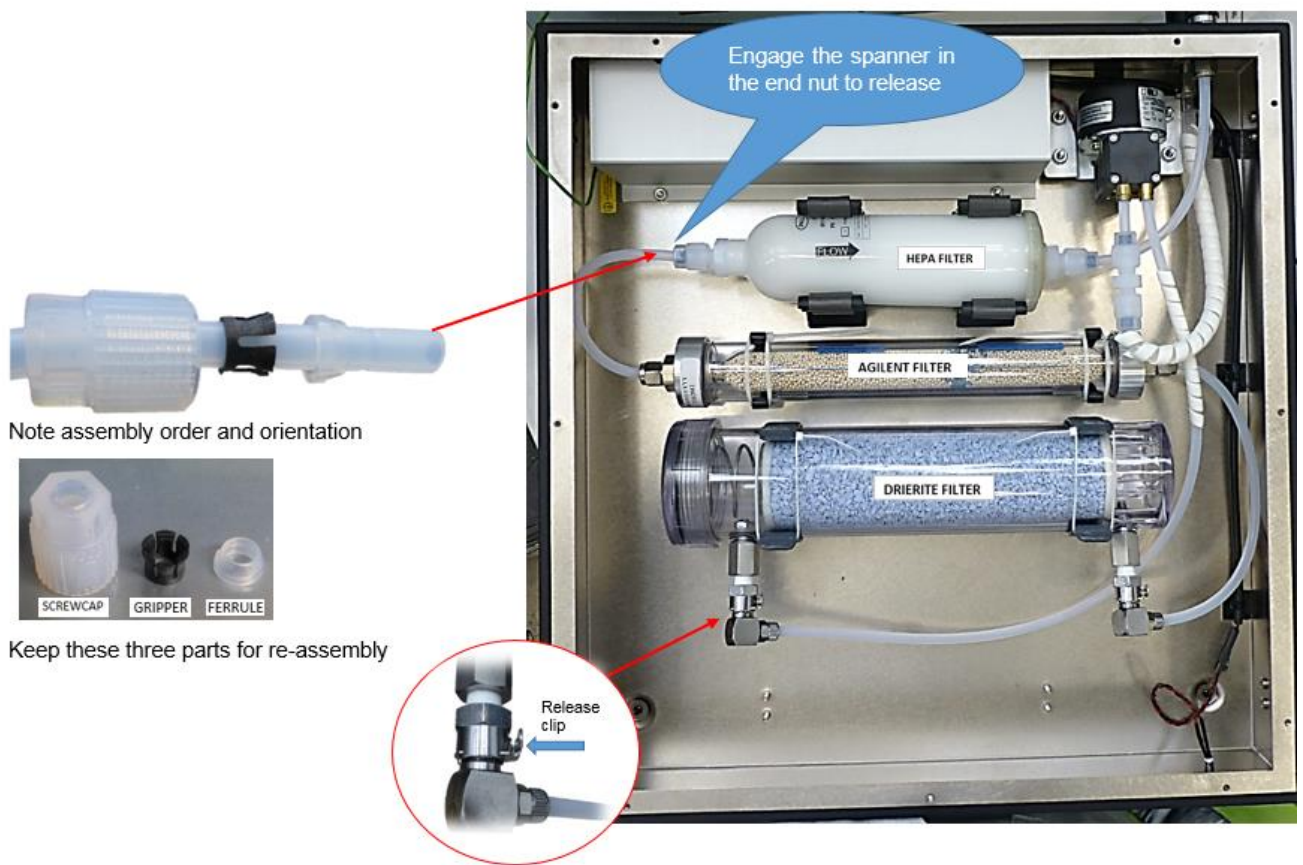

Figure 1
- Detach the tube from the HEPA filter flow input by using the spanner to loosen the connection then unscrew by hand and keep the seals with the screwcap (**Figure 1**)
- Detach the tube from the filler end of the Drierite filter by pressing the release clip to free the connection as shown (**Figure 1**)